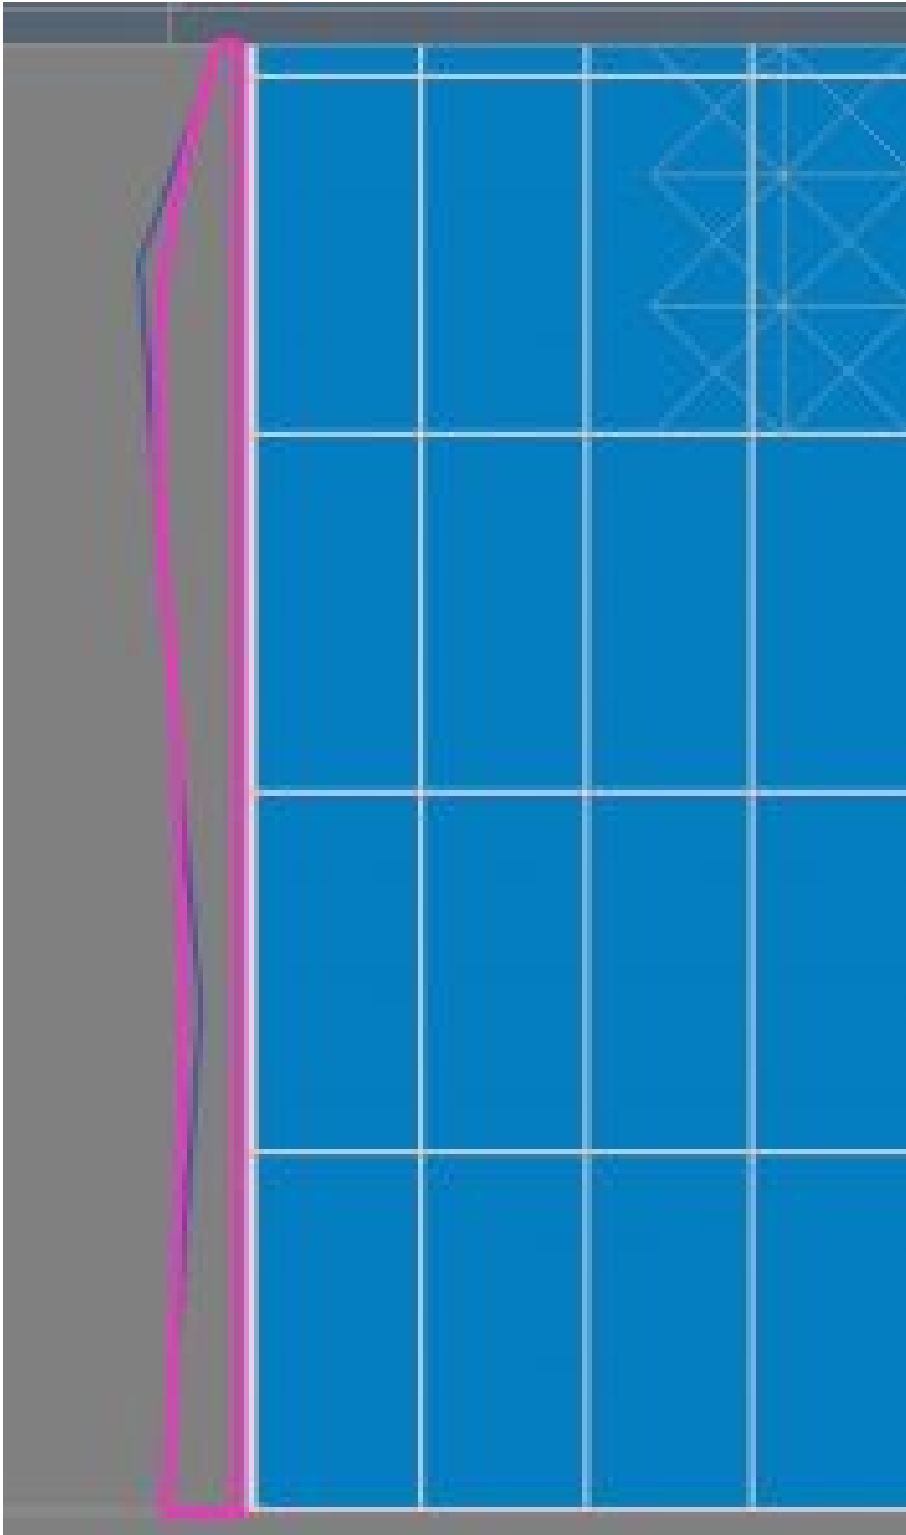

Figure 7.16 Profile drawn on Reference plane: 1 shown in the East view
9. Use the Line tool  and Spline tool  to draw the profile shown in Figure 7.16